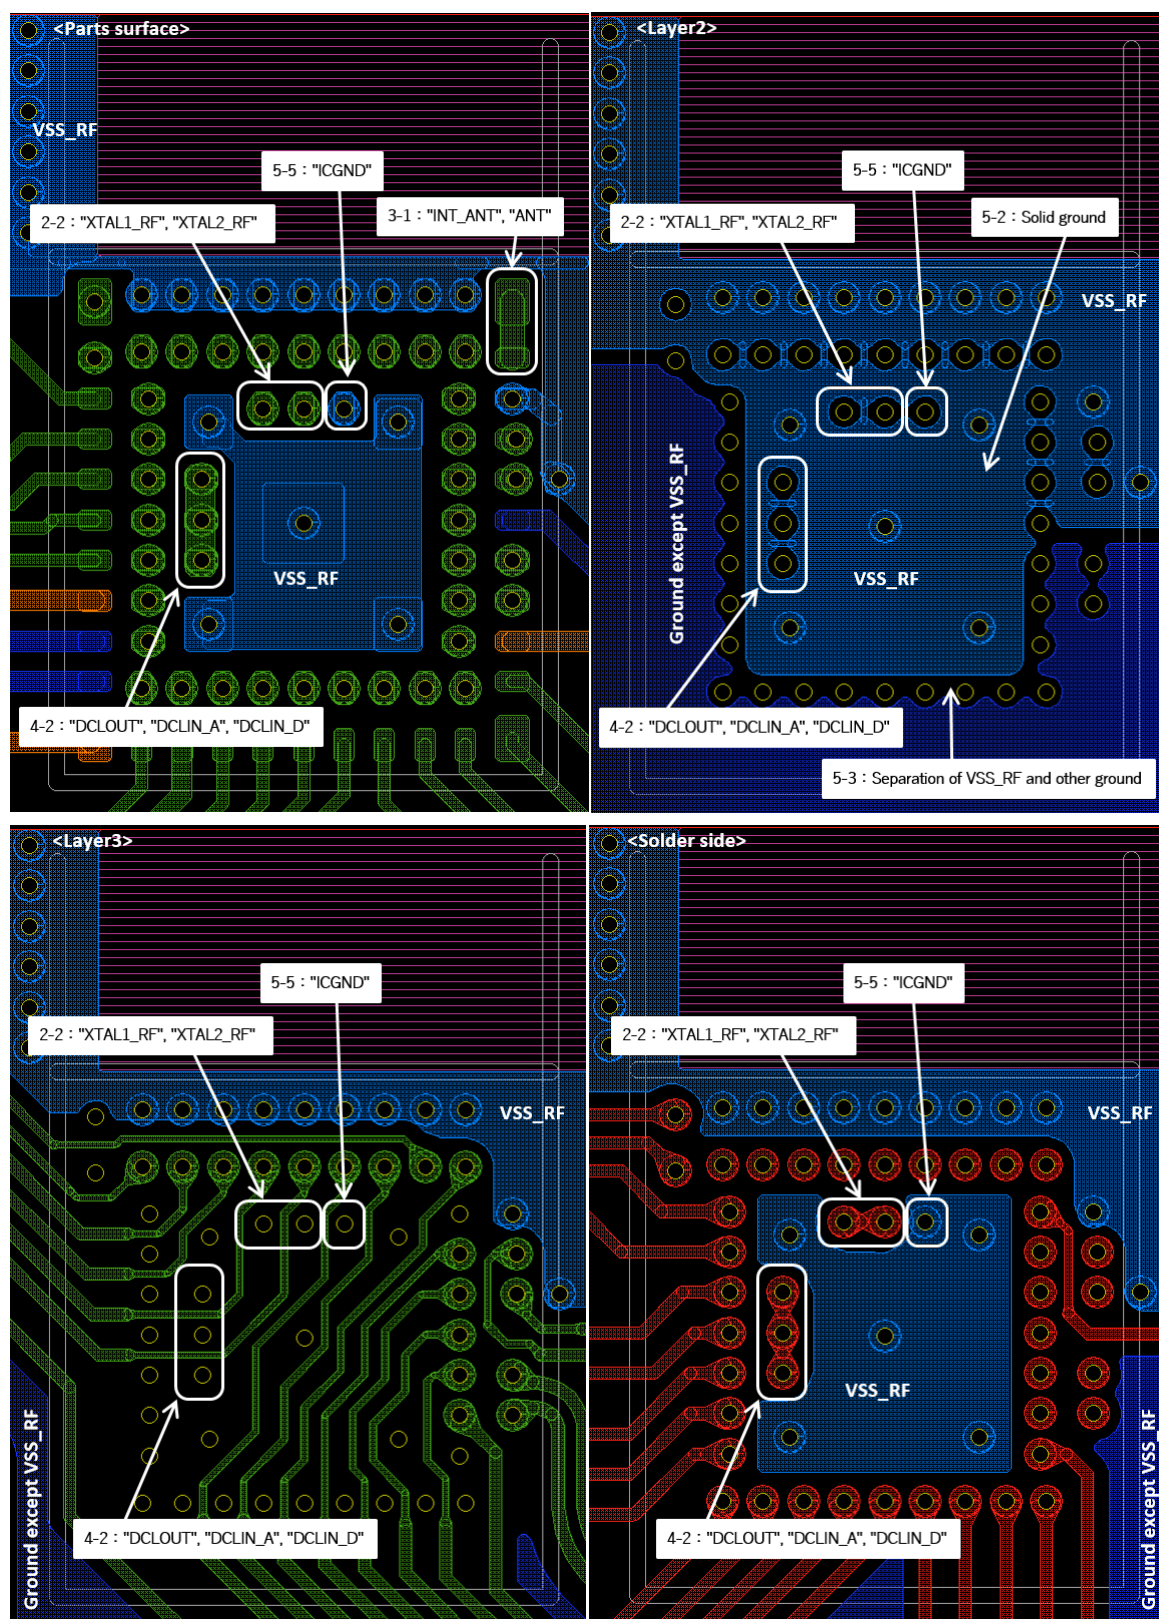

Figure 4-3 Example of the pattern under the RX23W LGA package
- 5-3. Connect "VSS_RF" and other grounds which are "VSS", "AVSS0", and "VSS_USB", with single point short. And separate the ground pattern directly under the IC package as shown in Figure 4-3.
Figure 4-3 shows an example of the pattern under the RX23W LGA package.